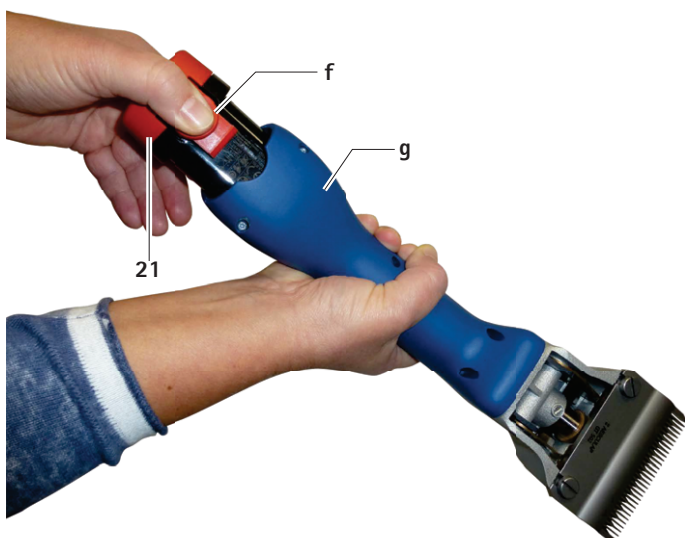

Fig. 1
- ▶ Hold the battery-operated clipping machine **g** with the cutter head downwards so that the lithium ion battery **21** does not fall down when loosened, see Fig. 1.